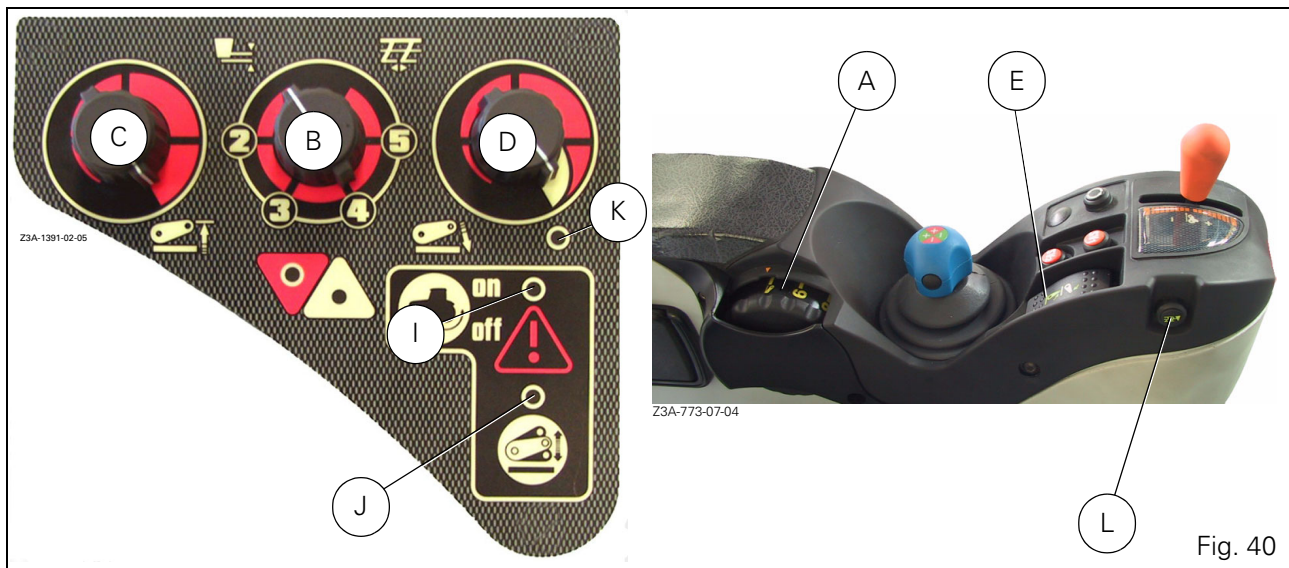

Fig. 40
- ((K) and (J) light up for 0.5 second approximately.
- ((I) stays on until the console is activated.
- Move the function selector knob (B Fig. 40) clockwise to minimum control position.
- Move the Lift / Lower selector switch (E) to the lift position.
- Adjust the linkage height in turning the control knob (A).
- The Lift indicator light (H) comes on.